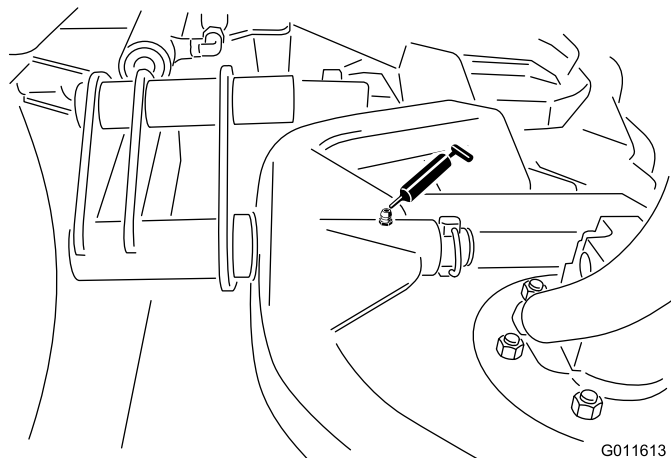

Figure 31
- Cutting unit carrier-frame pivot (1 each) (Figure 31)